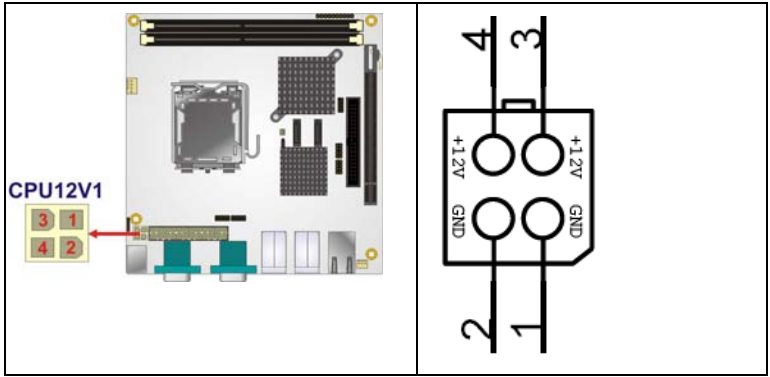

Figure 4-3: CPU 12V Power Connector Location
- CN Location:** See Figure 4-3